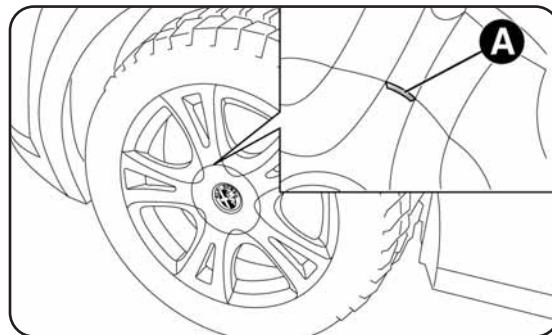

fig. 6
- for versions with alloy wheels: rock the vehicle to facilitate the detachment of the rim from the wheel hub. Some versions may be fitted with alloy wheels with a hub cap (fig. 6). To remove the hub cap insert the screwdriver into housings A-fig. 6 in order to access the retaining bolts. Replace the wheel as described previously.